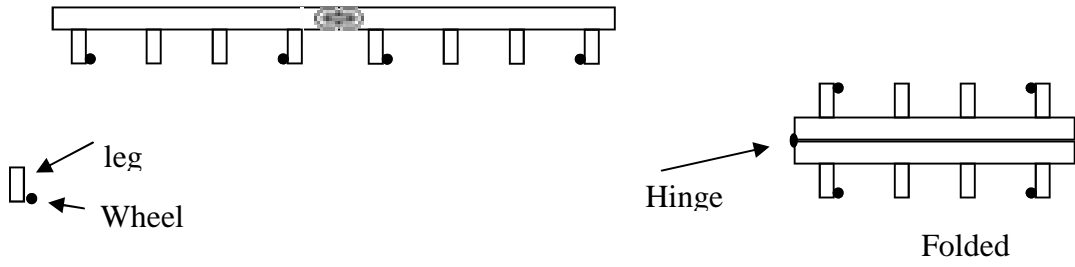

Fig. 4
- D. Connect the legs to the rails using the bolts provided and fasten tightly. It is easier to connect the legs to the rail if the rail is collapsed to its smallest length. (i.e. if you are assembling a 15' unit, fold the rails in half to connect the first 4 legs, then flip the rail and connect the last 4 legs.) (See Fig. 4 & 5 on page 3)